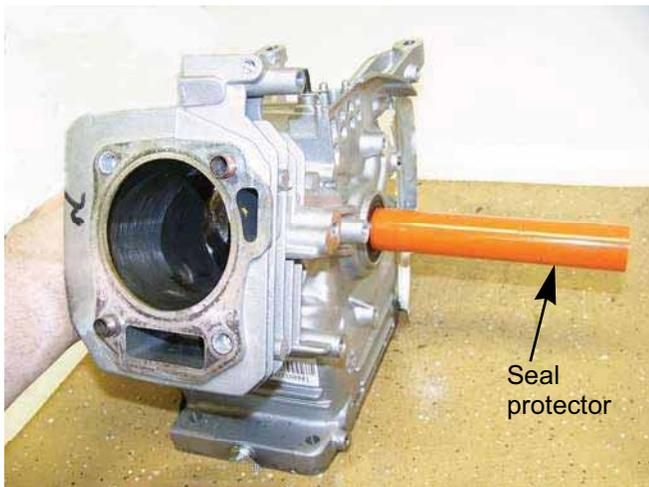

Figure 10.18
**NOTE:** Use an old piece of microfiche or a seal protector to protect the oil seal lip while inserting the crank shaft. See Figure 10.18.